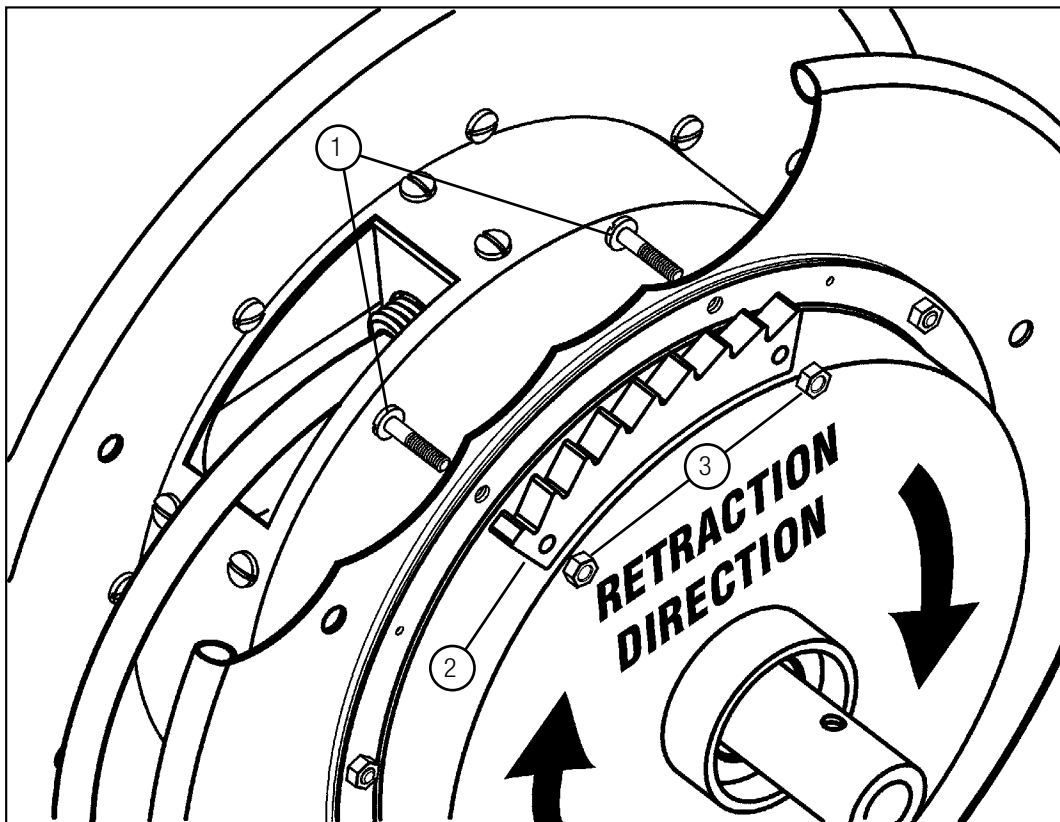

Figure 13-1
1. Insert the two provided 3/8-16x1" bolts in the frame. See **Figure 13-1**.